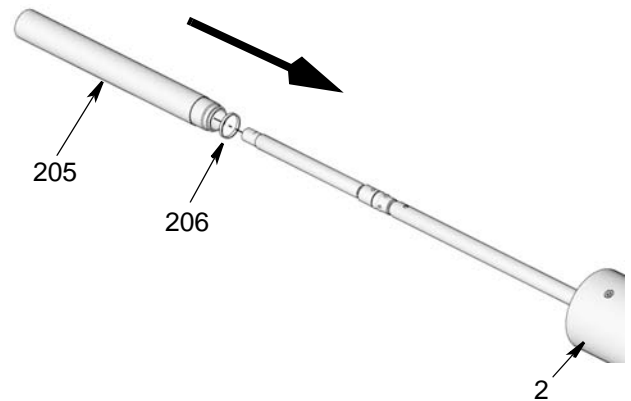

FIG. 41
- Apply a thin layer of grease around gasket (206). Install gasket over end of spacer cylinder (205). Slide cylinder over rod assembly as shown in FIG. 41. Thread end of cylinder into bottom of pump adapter (2). Use a pipe wrench to turn cylinder until tightened securely. Torque to 45 - 55 ft lbs (61-74 N.m).